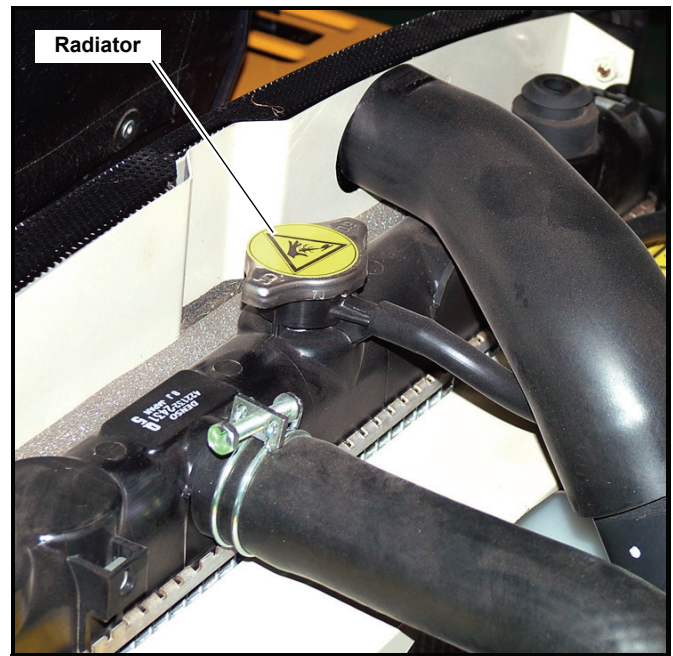

Figure 4-19
4. Clean the radiator cap and cap seal and install the cap. Figure 4-19